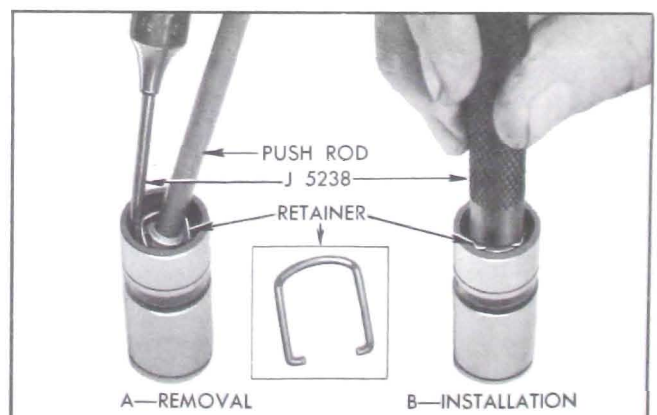

Figure 2-21—Removing and Installing Plunger Retainer
1. Disassemble each valve lifter by using a push rod to hold down the push rod seat while removing the plunger retainer from the lifter body, using Retainer Remover J-5238. See Figure 2-21, View A. Remove push rod seat and plunger from lifter body.
3. Rinse push rod seat and plunger retainer, place these parts in end of body and depress with handle of Remover J-5238 until retainer engages groove in body. See Figure 2-21, view B.